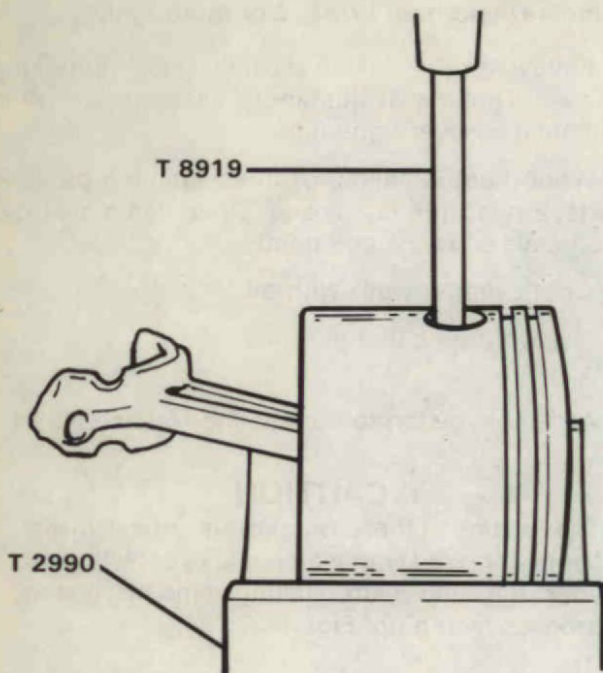

Figure 27A. Removing Piston Pin.
C. Install piston pin through piston and rod bearing using punch (Special Tool No. T 8919) and pillow block (Special Tool No. T 2990). Figure 27A.